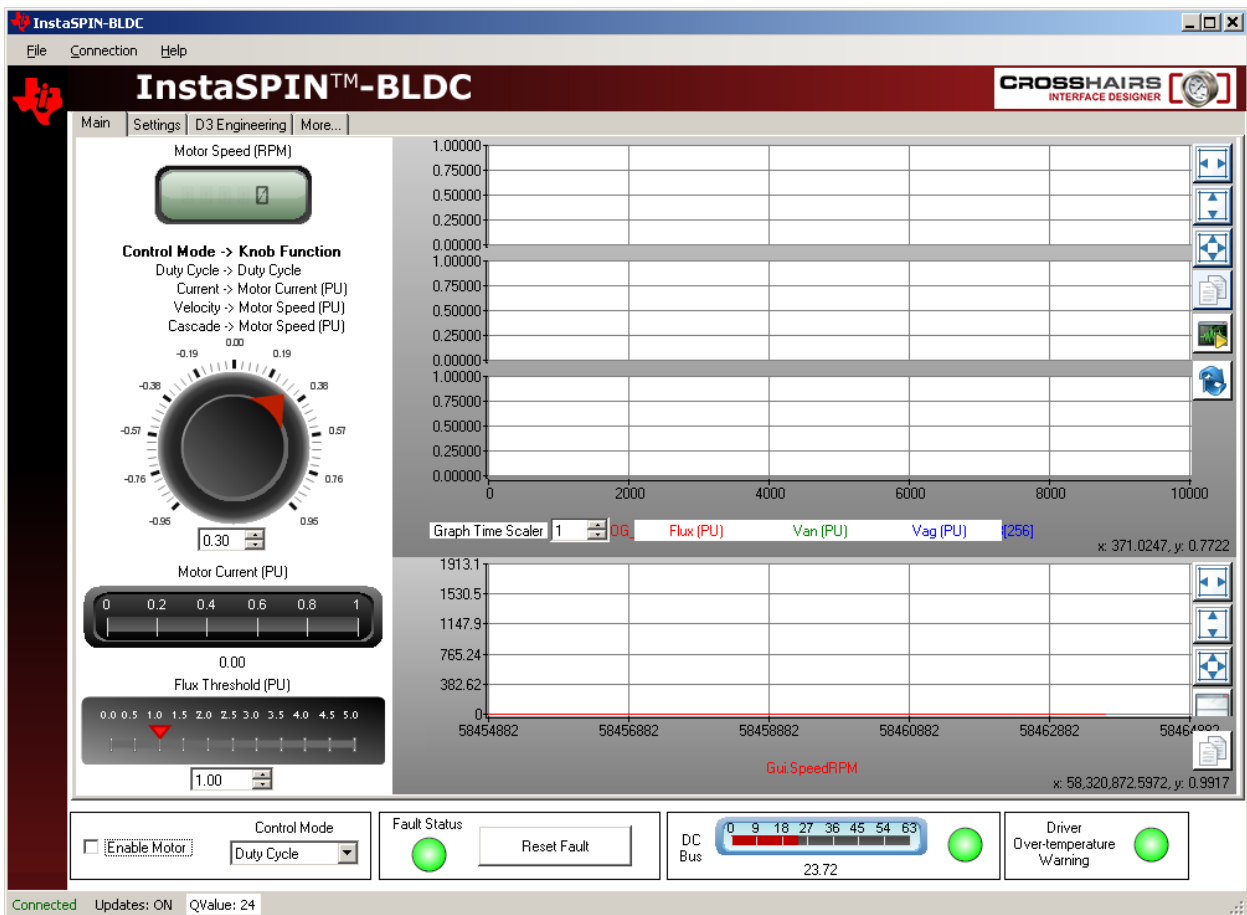

Figure 3. GUI Start-Up Window
1. Navigate to the *Sandstorm_InstaSpin-BLDC-GUI_Vxxx.exe* file and double-click it to launch the GUI pop-up window (see Figure 3).